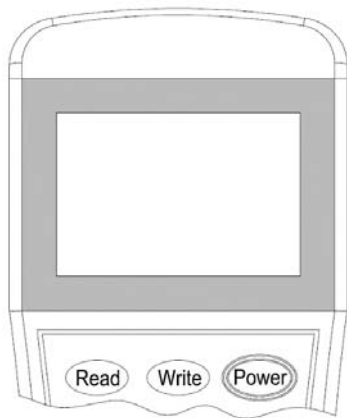

Figure 6
2. Switch-on the programmer, then press button **“Write”** or number **“2”** to enter Write Address mode (Figure 6).